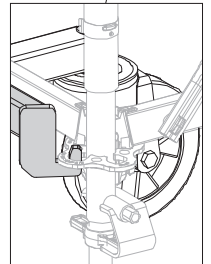

Fig. A2.05
2. Adjust the height by means of the winch (6) so that the rosetts are connected to the support hooks (3.7) and the Ledger with the holding pockets (3.4).
- (Fig. A2.05)